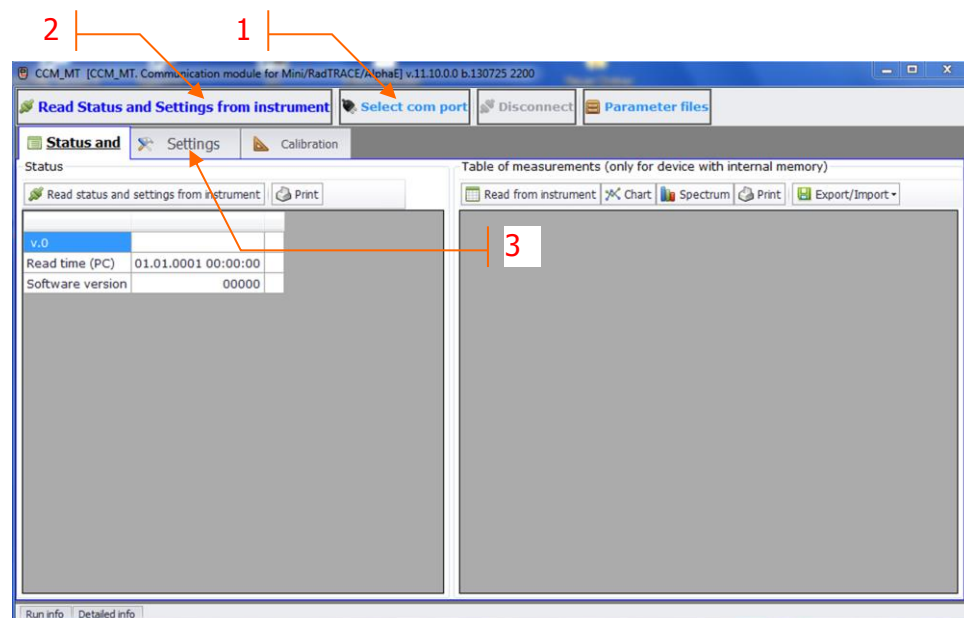
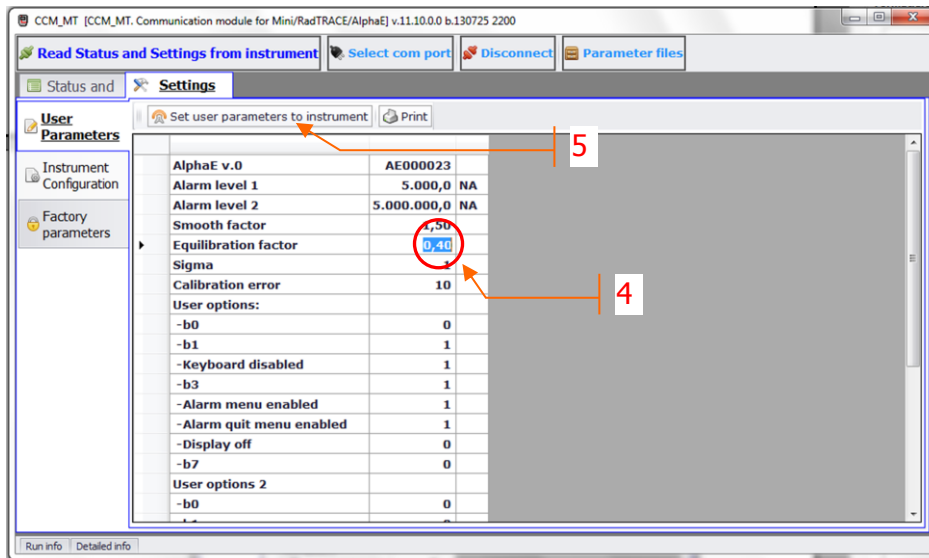

Figure 4: Main screen mask after starting the application
Figure 5: Main screen mask – User parameters
2. Start communication software by clicking on **wCCM_MT.exe** to be found in subdirectory ...\\MiniTRACE\\xApp_CCM) – the main screen mask appears (see Figure 4)
3. Click the button "Select COM port" (see 1, Figure 4), select correct COM port and baud rate 9600bd (the correct COM port is
After having pressed the button "Read status and settings from instrument" (see 2, Figure 4) the screen mask displays the current status of the *AlphaE (sample data)*:
Clicking the button "Settings" (see 3, Figure 4) the dialog "User Parameters" is displayed (see 3, Figure 5).